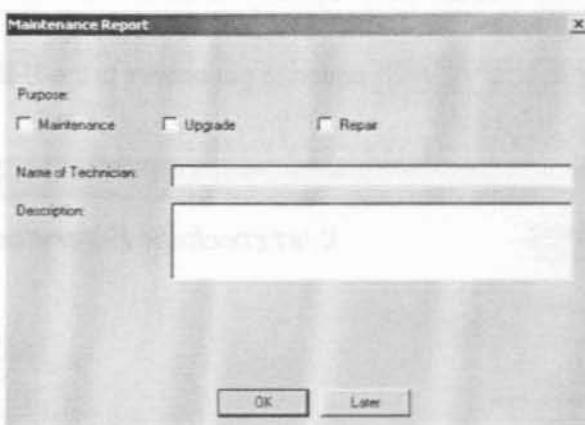

Figure 5-41 Maintenance Report
**NOTE:** After Hardware or Software modifications normally the "Maintenance Report" message box (see: Figure 5-41) appears automatically on the screen.